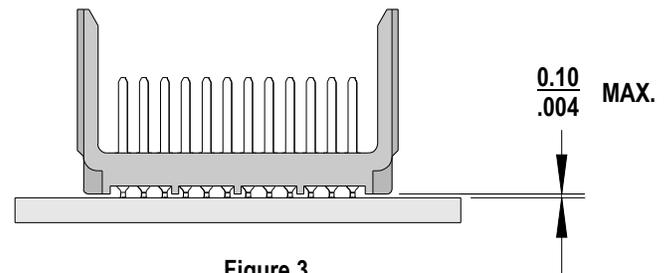

Figure 3
3. Using the application tool and an appropriate press, seat the header assembly until there is less than 0.10mm (0.004 in) clearance between the bottom of the plastic housing and the surface of the PCB. See Figure 3.